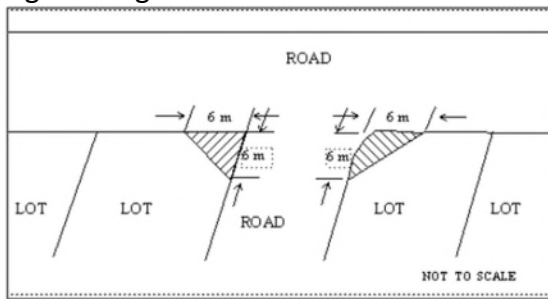

Figure 8 Sight Triangle
6. No buildings or structures shall be located within the sight triangle, as shown in Figure 8 Sight Triangle.
20. Landscaping shall be designed so that no plantings occur within the required sight triangle, as shown in Figure 8 Sight Triangle.	Agreed, we will not plant in this triangle